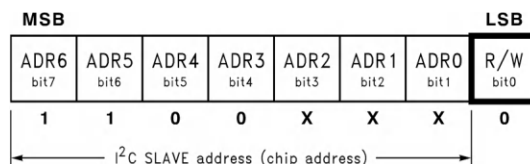

Figure 6-3. Chip Address Byte
5. The LP3943 provides for an externally selectable I2C slave address via the ADR0, ADR1, and ADR2 inputs. See Figure 6-3.
After the START condition, a chip address is sent by the I²C master. This address is seven bits long followed by an eighth bit which is a data direction bit (R/W). The LP3943 hardwires bits 7 to 4 and leaves bits 3 to 1 selectable, as shown in Figure 6-3. For the eighth bit, a 0 indicates a WRITE and a 1 indicates a READ. The LP3943 supports only a WRITE during chip addressing. The second byte selects the register to which the data is written. The third byte contains data to write to the selected register.